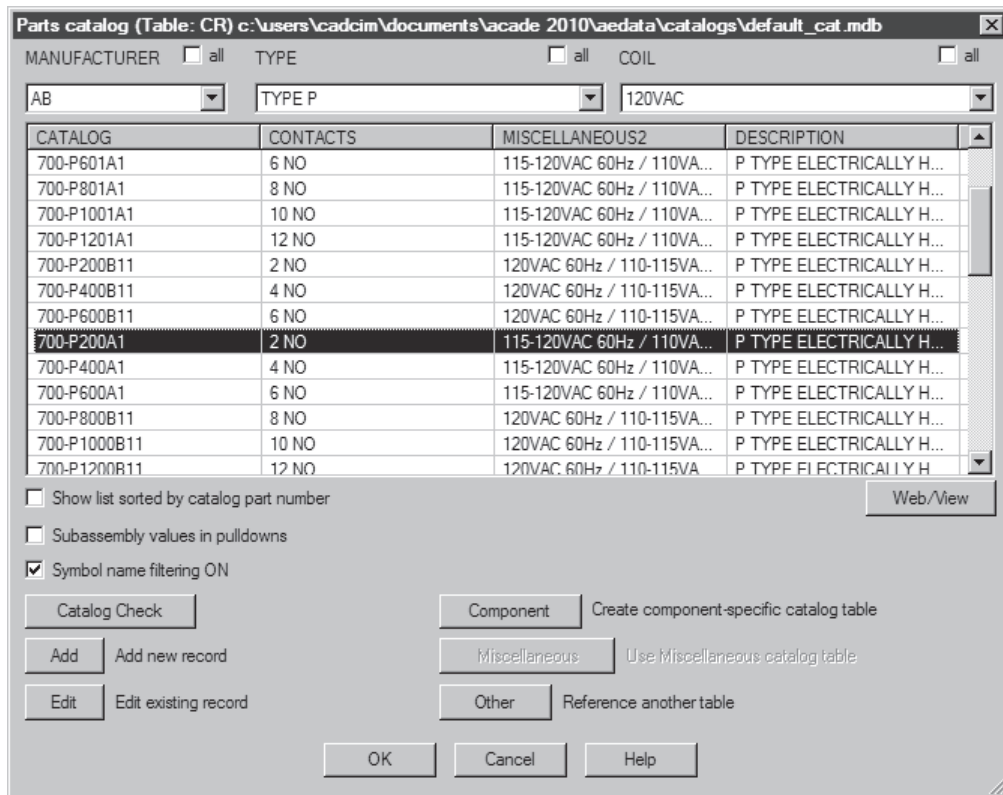

Figure 6-50 The Parts catalog dialog box
3. Choose the **Catalog Lookup** button; the **Parts catalog** dialog box is displayed, as shown in Figure 6-50.